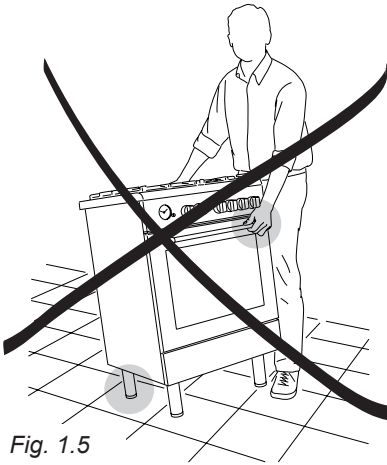

Fig. 1.5
**Be careful:** do not lift the cooker by the door handle when raising to the upright position (fig. 1.5).